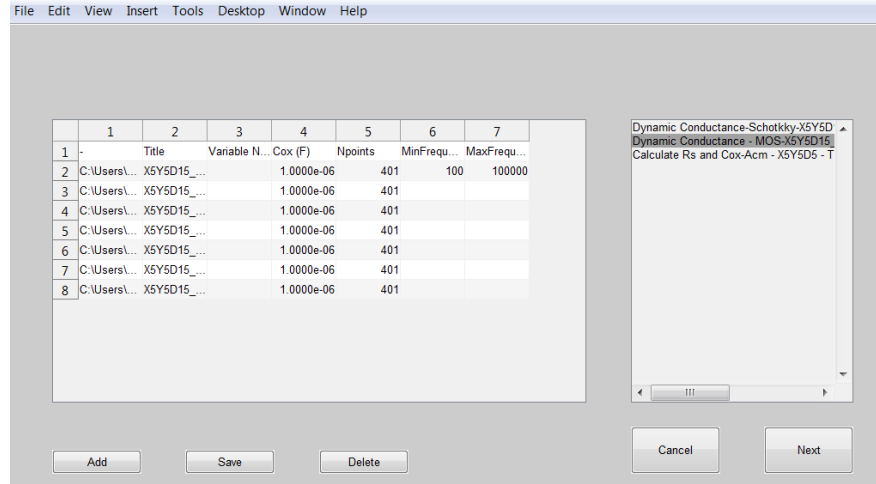

Figure 6
- 5- Press Next and the function will be added to the list shown in the right side of Figure 6
- 6- If needed, you can add multiple different functions, as it is shown in Figure 6. For this repeat steps 1 till 5.